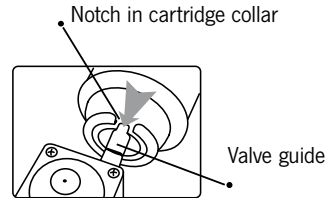

fig. 2
1. Check that the control knob (8) is set to position “•” by turning it clockwise and the cartridge lever (6) is set to UNLOCK.
2. Open the cartridge cover (2) and insert the cartridge, with the head to the front, so the notch points upwards and aligns in the value guide (fig.2).